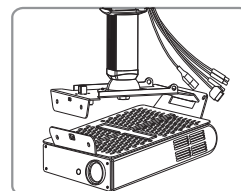
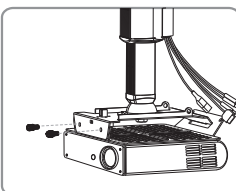

Figure 9
Figure 10
1. For installing the completed low bracket⑧ to the top bracket⑦ that push up the completed low bracket until it is fixed with the security lock⑨ and fasten the screws, refer to figure9 and figure 10.